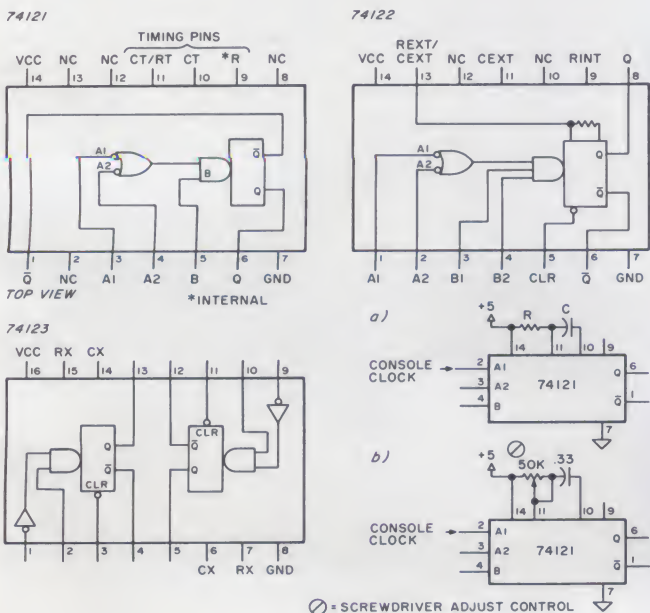

Fig. 1. Circuit diagrams for Experiments 36 and 37.
Solution: Set up the circuit in Fig. 1a on the console breadboard. The chip used for this experiment may be a 74121, 74122 or 74123, all members of a family of monostable multivibrators. Pin-outs for all three chips are given in Fig. 1.
The value of the capacitance in the timing circuit can also be changed to change the width of the output pulses. Leave the variable resistor at one setting and try substituting different values for the timing capacitor (C) in Fig. 1. Increasing either resistance or capacitance will widen the pulses out of the one-shot.
Procedure: Change the timing resistor (R) of Fig. 1